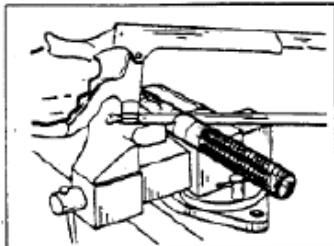

Figure 2
3. Install the socket on the hose with the threaded end of the socket toward the cut end of the hose. This will be a lot easier and you will end up with fewer holes in your fingers if you hold the socket in a vise. Push the socket well beyond the end. (**Figure 2**)